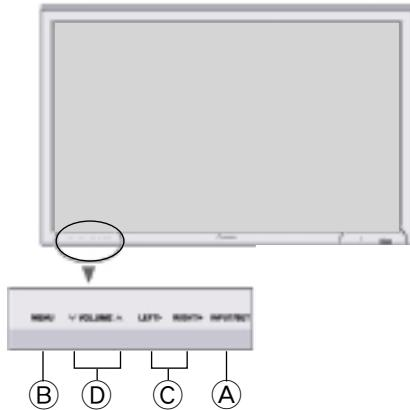

Fig. 5
- Press the Menu key (Ⓑ) to close the service factory mode. (See Fig. 5)